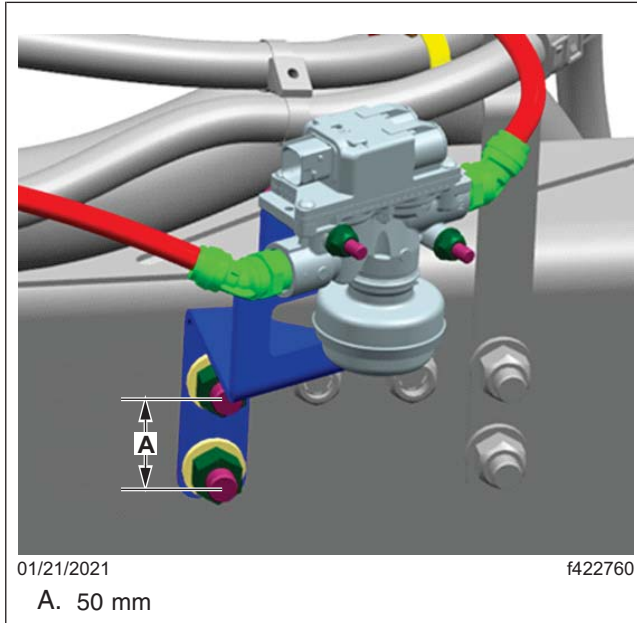

Fig. 22, Modulator Assembly Installed
7. At frame location 1225 mm on the left frame rail, drill a hole 50 mm below the existing hole that holds the fastener for a routing and clipping bracket. Install the modulator assembly as shown in Fig. 22.